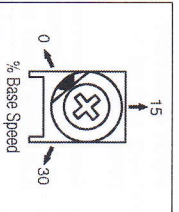

FIGURE 26 – MIN TRIMPOT RANGE
D. Minimum Speed (MIN) – Sets minimum speed of the motor. The MIN trimpot is factory set for 0% speed, as shown in Figure 26. For a higher minimum speed setting, rotate the trimpot clockwise.